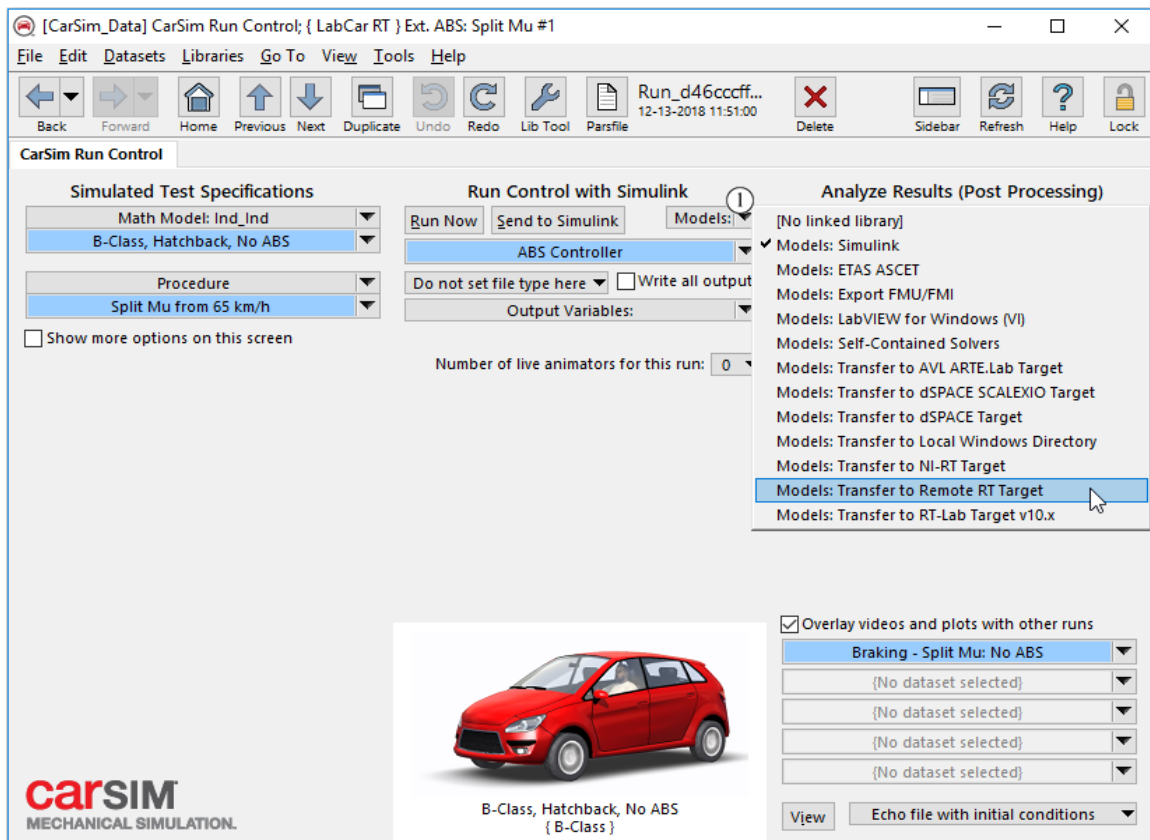

Figure 40. CarSim Run Control: change the linked Models library.
2. Use the **Models** drop-down list to specify the library **Models: Transfer to Remote RT** (Figure 40).